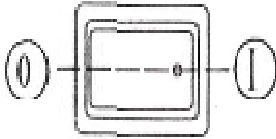

fig.1
1.The switch is at the end of the motor. When you press down the place with a white point of the switch (be the place marked "1" on the tailood), the motor starts. And the motor is stopped when press down the place which is not marked of the switch (be the place which is marked "0"on the tail- hood). (as fig.1).